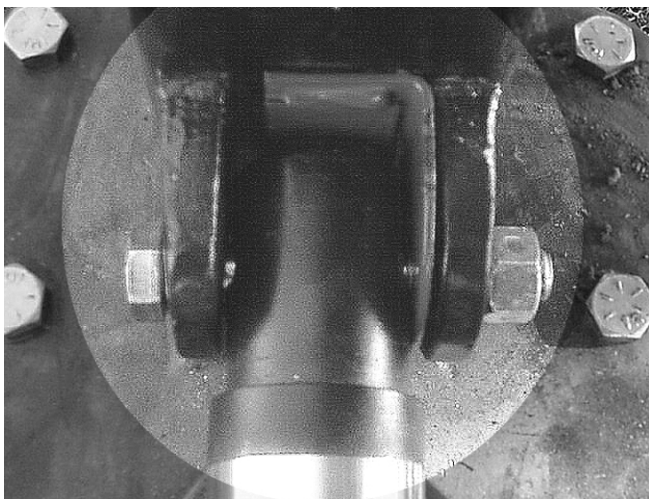

**FIGURE 3**
10. Slide the wedge away from the cylinder ram enough to slip the Shim Assembly, Item 1, between the wedge and cylinder ram. See Figure 3.